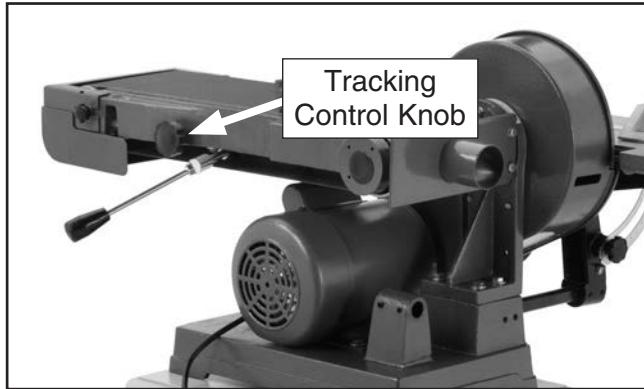

Figure 77. Tracking control knob.
5. Turn the sander **ON**, and using the tracking control knob (see **Figure 77**), carefully adjust the tracking in or out until the sanding belt is centered on the main roller (see **Figure 43, Page 27**).